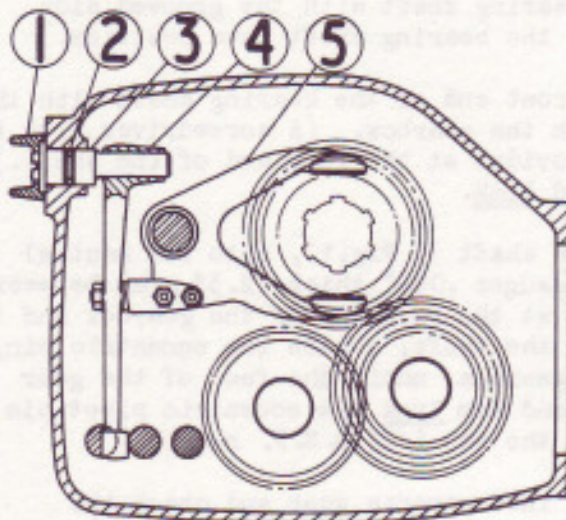

FIG. 11. SECTION - 3rd & 4th SPEED OPERATING LEVER ASSEMBLY.
- (v) With the actuating levers 5, Fig. 9 and 4, Fig. 11, on their respective eccentric pivot pins, place the two forks loosely in the gearbox in their relative positions. Lightly smear the outer race of
Each cone should have an end float of .020" to .030" (0.5 - 0.76 m/m). The end float of the cones is the same for gearboxes fitted with the later type 3rd motion shaft (RG-5469) and bridge shaped keys. If the end float requires equalising, slaken off the two 1/4" B.S.F. nuts securing the locking plate of the eccentric pin 3, Fig.11, ( on right-hand side of box towards the front) and adjust the eccentric pin as necessary. Re-lock the pin and then check that the 3rd and 4th speed selector shaft has approximately an equal amount of "over-ride" in the fully forward and reward positions. While it is not essential that the "Over-ride" should be equal, it must always exist. The term "over-ride" is fully explained in sub-paragraph (iv).